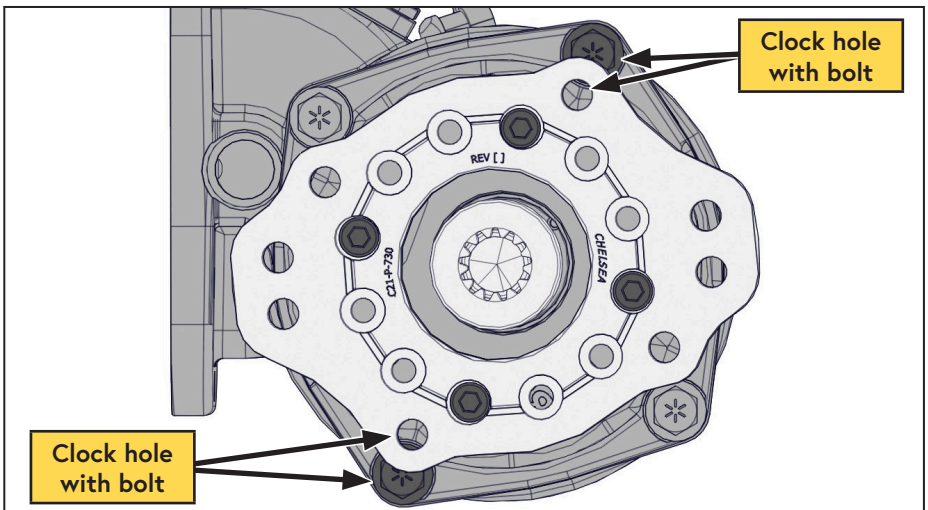

Figure 13 — PTO Clocking ring orientation
- ☐ Install the PTO clocking ring in the orientation shown (see Chelsea manual for torque specifications) (Figure 13).